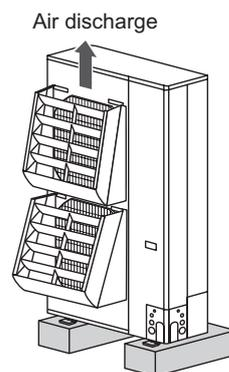

Fig. 1-18
- The air discharge outlet is facing to the sidewalk and discharged hot air annoys the passers-by. (Fig. 1-18)